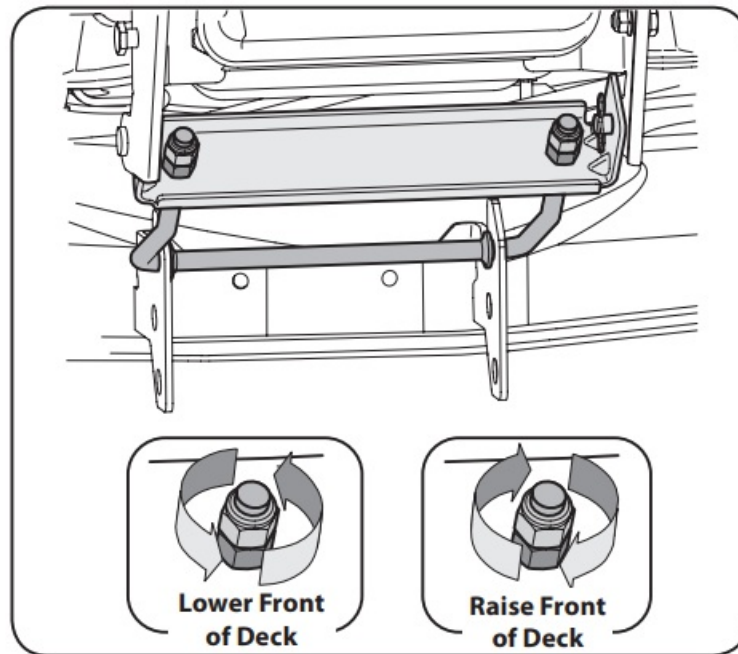

Figure 6-6
3. Working at the front of the tractor, loosen the two hex lock nuts at the front of the deck hanger rod. Thread the lock nuts away from the hex nuts behind them. Refer to Fig. 6-6.
4. Use a open end wrench to turn the inner hex nuts to adjust the front of the deck. Tur the hex nuts clockwise to raise the front of the deck, or counterclockwise to lower the front of the deck. Adjust the hex nuts evenly so that the deck hanger rod is at the front of both slots in the hanger bracket on the front of the deck. See Fig. 6-6.